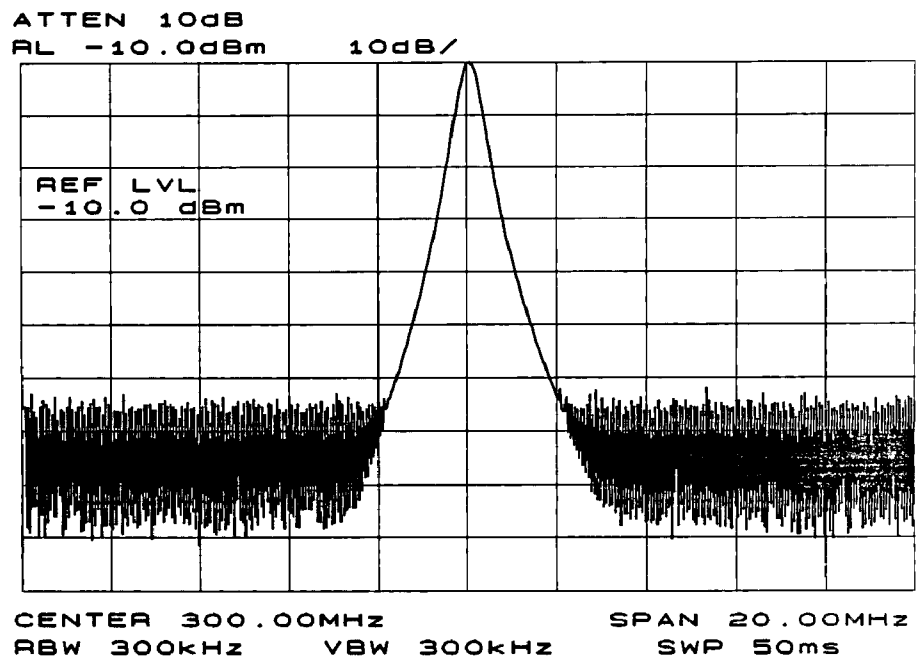

Figure 1-7. Signal Peak Set to Reference Level
3. Set the amplitude. Generally, placing the signal peak at the reference level provides the best measurement accuracy. To adjust the signal peak to the reference level (Figure 1-7), press **AMPLITUDE**, then key in **10 -dBm**, or use either the step keys or the knob. Using the knob is the easiest way of fine-tuning the signal peak to the reference level, which is at the top of the screen.